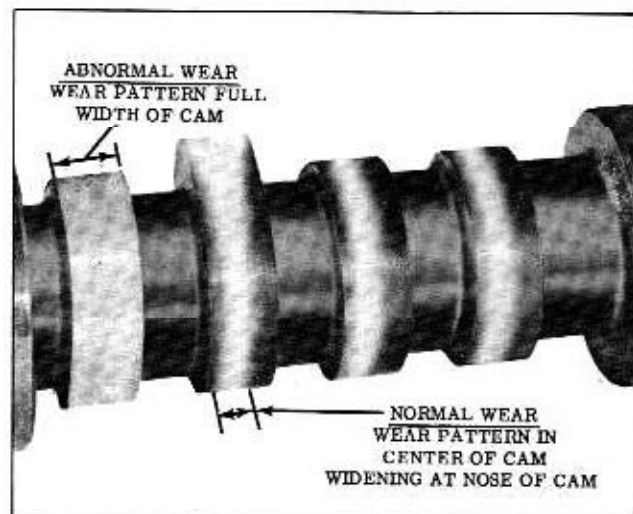

Fig. 8-16 Camshaft Wear Patterns
3. If light indicates a flat or concave surface of the lifter foot, the lifter should be replaced and the camshaft inspected for wear. Wear at the CENTER of the cam base circle is NORMAL. (Fig. 8-16) The camshaft should be replaced ONLY when wear is present across FULL WIDTH of cam base circle.